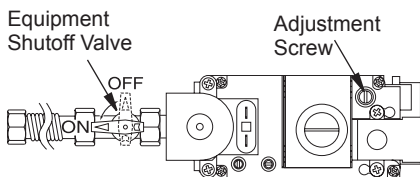

Figure 63 - Turning Equipment Shutoff Valve to the OFF Position
5. Turn equipment shutoff valve clockwise to the OFF position (see Figure 63). Do not force.